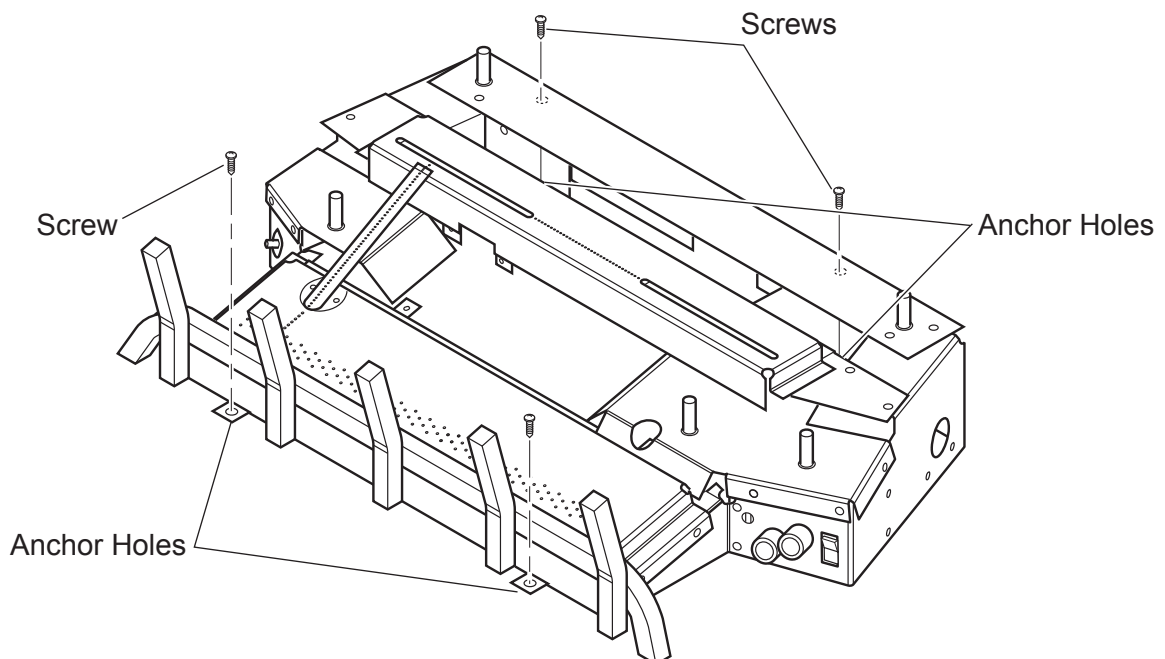

Figure 14 - Securing Heater to Floor of Fireplace/Firebox
2. Anchor holes are located in front of the unit and in the back (right and left sides) of the unit. After centering the grate correctly, mark the hole positions on the fireplace/firebox floor. Drill two (2) $\frac{5}{32}$ " diameter holes approximately $1\frac{1}{2}$ " deep.
3. Anchor the grate to the fireplace/firebox floor using the screws provided. *See Figure 14.*